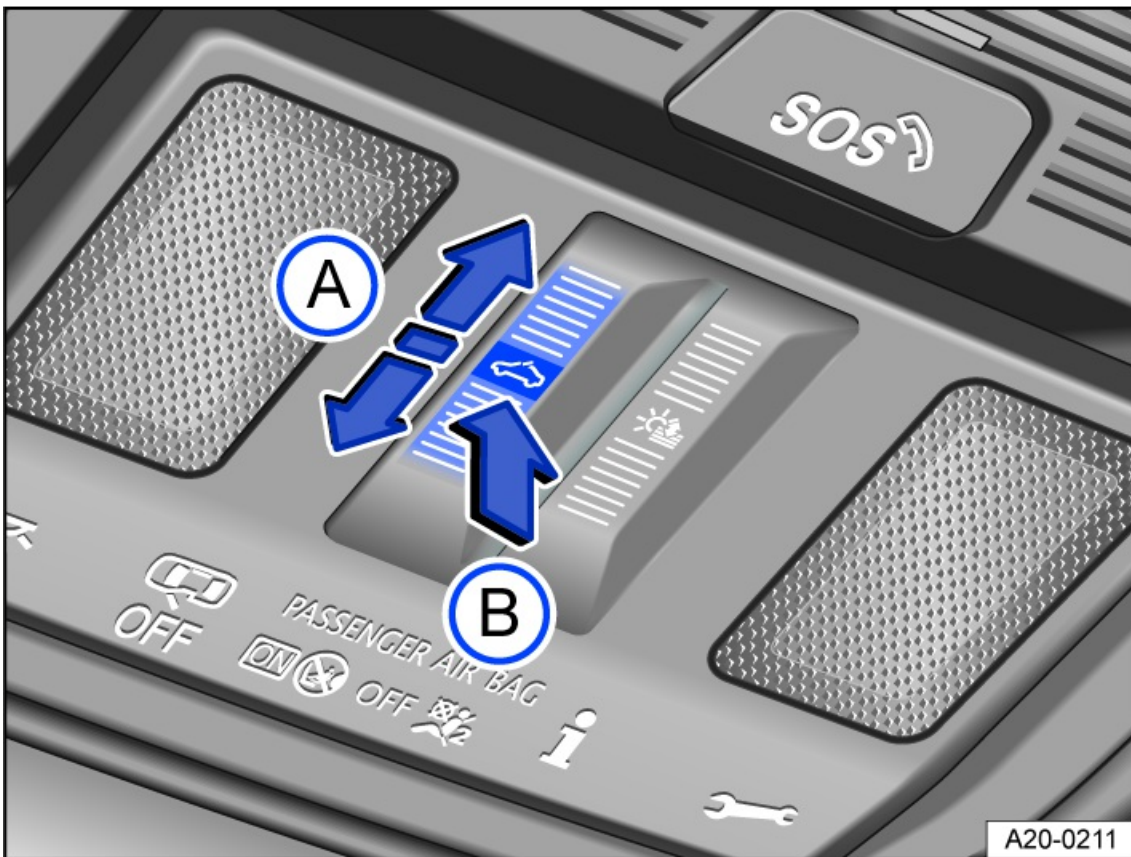

Fig. 54 In the headliner: Control for the tilting and sliding panoramic sunroof.
- Automatic process: swipe back on the  control *fig. 54*.
- Automatic process: swipe forward on the  control *fig. 54*.
- Automatic process: Briefly tap the center of the  button *fig. 54*.
1. Briefly tap the center of the  button *fig. 54*.
1. Tap the  button again *fig. 54*.